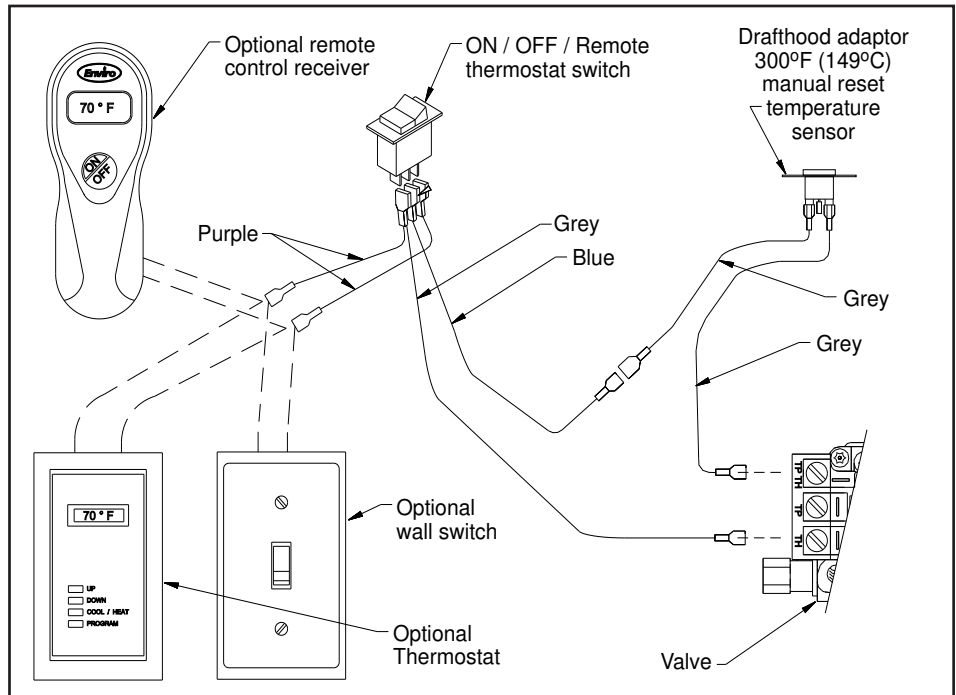

Figure 32: Wiring Diagram for Electrical Connection.
3. Being careful not to run any wiring tight across metal edges; connect them to the valve and "ON/OFF" switch (refer to Figure 32).
WIRING DIAGRAM: When installing the Drafhhood Adaptor onto a fireplace fitted with an optional wall switch or an optional thermostat, remove one wire from the switch to the gas valve and connect the Drafhhood Adaptor harness as shown in Figure 32.
2. Disconnect the spill switch wires from the valve and on/off/remote rocker switch wire (see Figure 32).